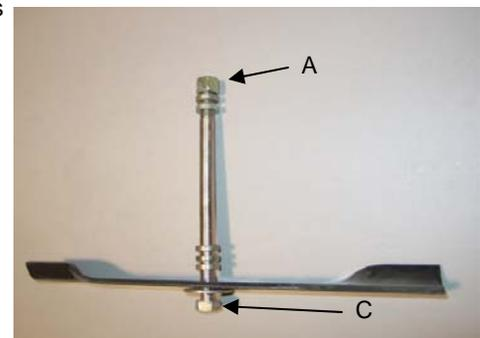

Figure 10
3. Using two 15/16” box end wrenches. Use one wrench to loosen nut “A” while holding bolt “C” with the other wrench. (Figure 10)
6. Install the blade spacers that were removed, back onto the blade bolt followed by the nut and tighten. (Figure 10)